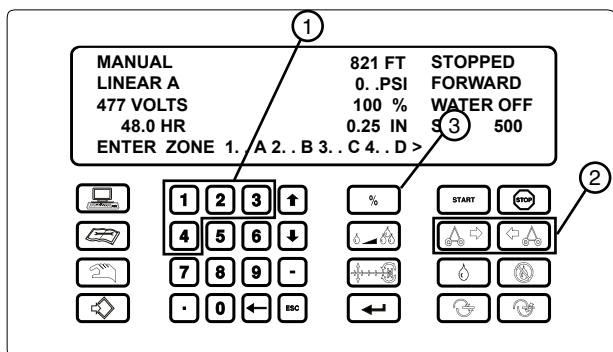

Figure 76-2 1. Numeric Keys 2. Direction Keys 3. Percent Key
Select a Zone 1=A, 2=B, 3=C 4=D. See figure 76-2.
5. Select the direction of movement for the span to pivot. See figure 76-2.
6. Press  to set the percent timer to the desired percentage. See figure 76-2.